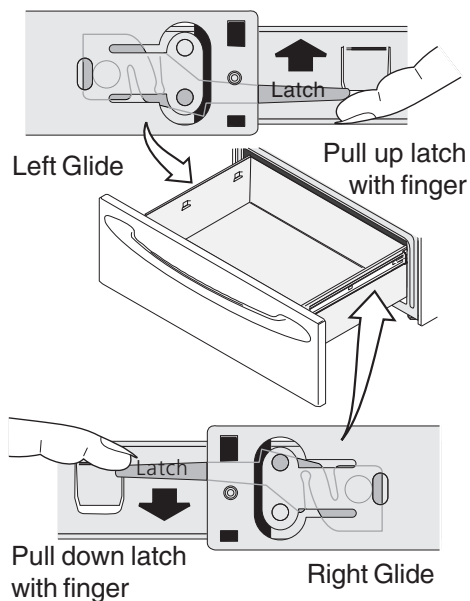

Figure 1
Lock engaged for door removal - Figure 1
2. Pull up the hinge lever located on each hinge supports and engage it into the hinge lever hook (Figure 1). You may have to apply a little downward pressure on the door to pull the lever fully over the hinge lever hook.
2. Locate the latches on both sides of the warmer drawer. (See Figure 1)
3. Pull up on the left glide latch and push down on the right glide latch. (See Figure 1)